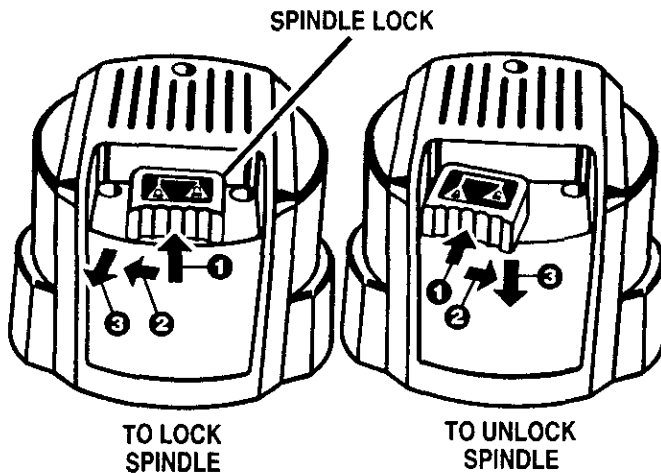

Fig. 2
See Figures 2, 3 and 4.
- A spindle lock is located on the top of the end cap. See Figure 2. To activate lock, (1) push spindle lock in, (2) slide into lock position, then (3) release spindle lock.
■ Place spindle lock back in unlock position. Otherwise, interlocking mechanism of spindle lock will not let you turn your router on. To unlock spindle, (1) push spindle lock in, (2) slide into unlock position, then (3) release spindle lock. *See Figure 2.*